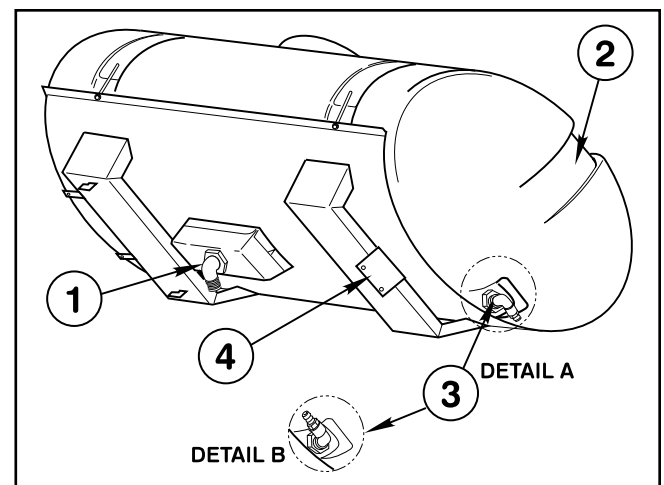
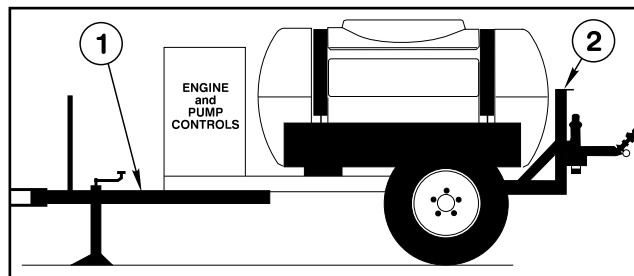
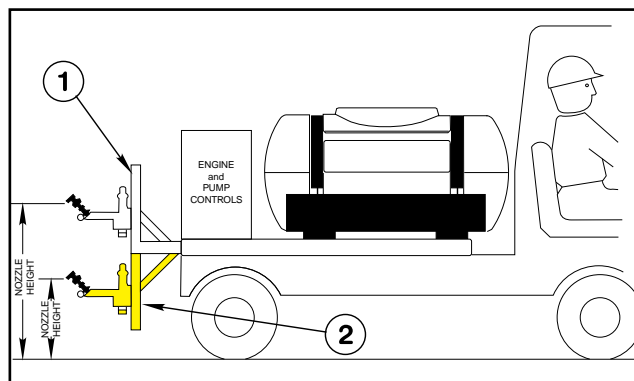

FIG. 2
FIG. 4
FIG. 5
3. Apply thread sealer and install the 90° barbed elbow into the bottom of the Tank. See FIG. 2.
4. Apply thread sealer and assemble the 90° St. elbow to the male Quick Coupler. Install the elbow into the fitting at the spill-way end of the Tank, so that it angles toward the outside of the Tank as shown in FIG. 2.
NOTE: If the Skid Sprayer is to be installed on a Trailer, (as shown in FIG. 4), install the Elbow and Quick Coupler in the Tank as shown in Detail "A" of FIG. 2. If the Skid Sprayer is to be installed on a Transport Vehicle (as shown in FIG. 5), install the Elbow and Quick Coupler as shown in Detail "B" of FIG. 2.
If the Skid Sprayer is to be equipped with the optional Trailer Package (Model No. 41415), mount the Boom as shown in FIG. 4.
a. If this distance is measured at 24" or less on your vehicle, install the Boom Mounts in the **upright** position. See FIG. 5.